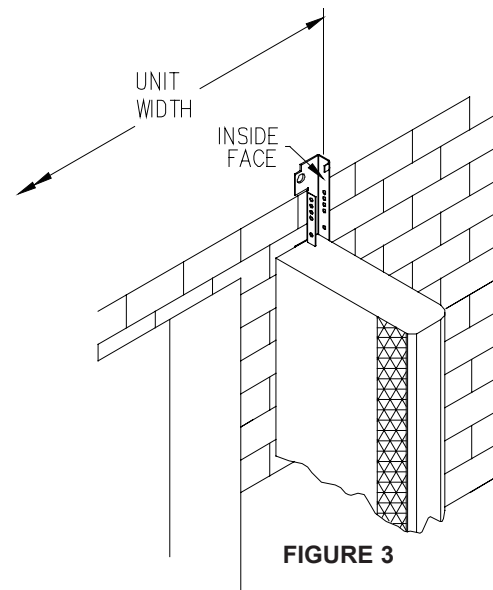

FIGURE 3
7. Attach one side of the side members to the building wall first. Make sure this member is mounted correctly and plumb. Refer to "Fastening Methods" section of these instructions for the correct fastening method for the building style the side members are being installed on. Attach the second side member, using the first member and the marks on the wall as a reference. When finalizing the side members unit width, as noted in Step 1, make sure that the distance between the inside faces of the mounting brackets are least +1/8 in (3 mm) wider than unit width but no more than 1/4 in (6 mm) for ease of installation. Unit widths outside this range may be adjusted after by loosening side member clip brackets and header anchors. For best results, keep the unit width of the mounting brackets as close to above specifications. (See Figure 3)